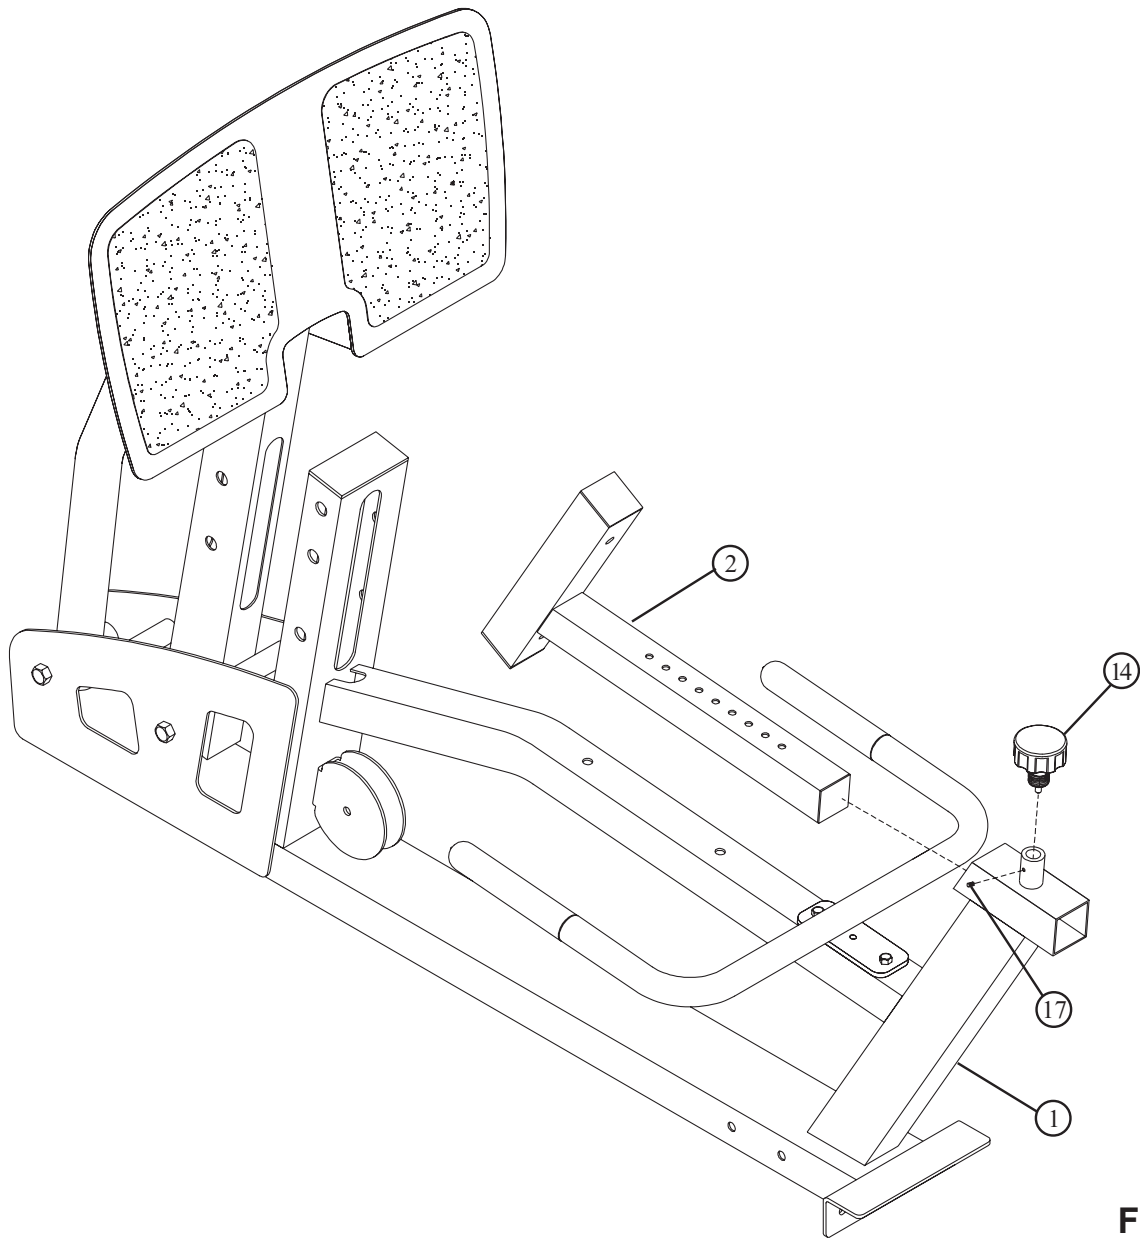

FIGURE 6
- A. Securely assemble the Spring Pin Knob (14) to the Frame (1) as shown in Figure 6.
- B. Insert the M4 Set Screw (17) all the way into the plunger pin barrel on the Frame (1), then screw it back out 1/4 of a turn, so that the Spring Pin Knob (14) rotates freely until its treads contact the M4 Set Screw (17).
- C. Carefully slide the Seat Adjust (2) into the Frame (1) as shown in Figure 6. The Seat Adjust (2) can be moved by turning the Spring Pin Knob (14) counterclockwise and pulling. The Seat Adjust (2) can be secured in place by releasing the Spring Pin Knob (14) into an adjustment hole and turning it clockwise until tight.